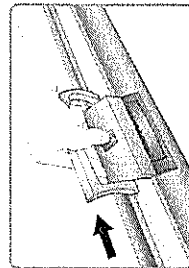

Figure 6
3. Pull up the handle while using the thumb to release the tube lock as arrow indicates (Figure 6).